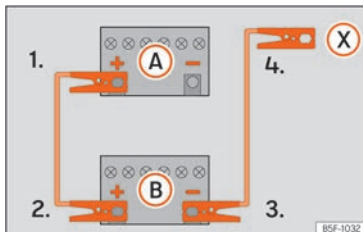

Fig. 44 Diagram of connections for vehicles without Start-Stop system.
2. Connect one end of the *red* jump lead to the positive (+) terminal of the vehicle with the flat battery (A) » » Fig. 44.
3. Connect the other end of the *red* jump lead to the positive terminal (+) in the vehicle providing assistance (B).
- 4a. *In vehicles without a Start-Stop system:* connect one end of the *black* jump lead to the negative terminal (-) of the vehicle providing the current (B) » » Fig. 44.